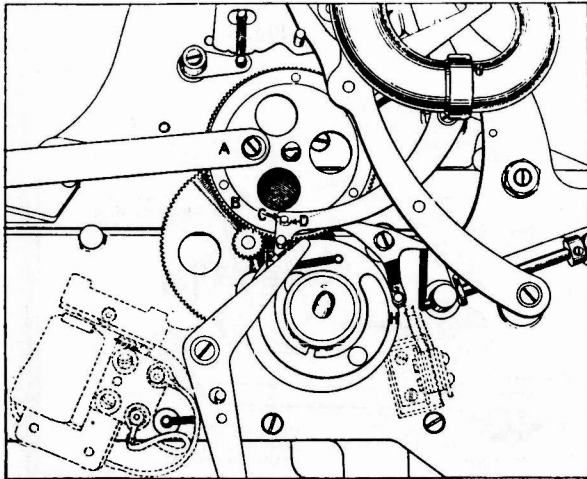

Fig. 9
12. Should the pick-up shunt switch (shown dotted in Fig. 9) fail to close or should it momentarily open after the reject button has been operated, or fail to open when the first music grooves are reached:
With roller "G" engaged in pawl carrier at point "H," Fig. 9, loosen screws holding pick-up shunt switch to the operating unit base, and adjust its position so that the contacts have a clearance of about $\frac{1}{8}$ of an inch.
- c. Retime mechanism in the following manner, referring to Fig. 9.
Upon replacing pawl carrier, "G" and "H" should be in position, as shown in Fig. 9.